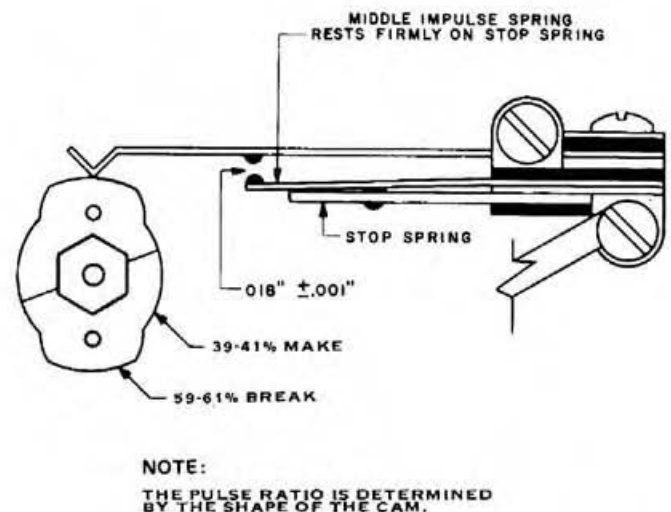

Figure 13. Standard Dial Impulse Cam Adjustment.
- (b) When not engaged by the impulse shorting arm, the middle impulse spring must firmly rest against the heavy stop spring from its own tension (Figure 13).
spring buffer (Figure 13). On Type 24 and 24A36 dials, the middle impulse spring must have a tension of from 20 to 40 grams against the stop spring, measured at the contacts.
- (d) Move the fingerwheel off-normal until the formed tip of the main impulse spring is resting against a lobe on the impulse cam (Figure 13). Check the contact separation between the main impulse and middle impulse spring; it must be 0.018 inch $\pm$ 0.001 inch as adjusted by gauging. (Dials adjusted to percent break may show contact separation slightly outside the specified gauging limits.) An impulse ratio meter or an equivalent meter should be used to check the percent break/make. A pen recorder is also useful in this measurement. The limits should be 59 percent to 61 percent break (41 percent to 39 percent make) readjusted, and 58.5 percent to 61.5 percent break (41.5 percent to 38.5 percent make) test.